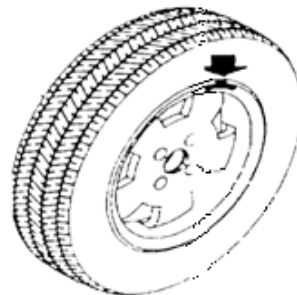

Figure 10-9
10.2.4 Slowly spin wheel, when outside counterweight position indicator light (figure 5-1(8)) all on, clip correspond counterweight on 12 o'clock position on outside of rim, ect figure 10-9;